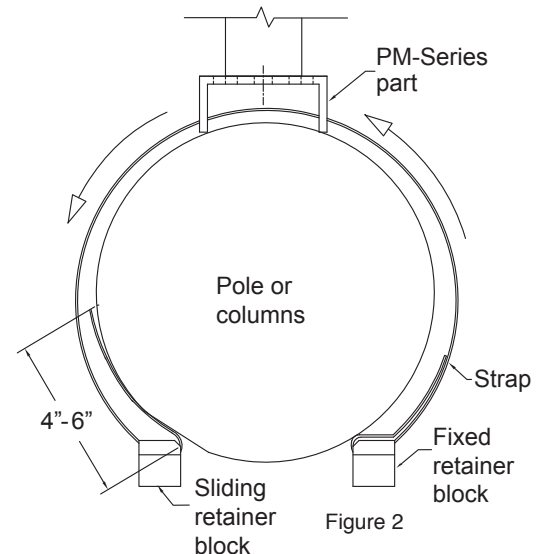

Figure 2
Insert the free end of the strap through the Pole Adapter's slots, then through the Sliding Retainer Block, non-beveled end first (Figure 2).
Holding the Fixed Block firmly against the pole, overlap the strap. Move the Sliding Block up against the Fixed block so that their two beveled edges meet each other (Figure 2).
Step 6: Place the strap assembly around the pole, at the final mounting height and secure the Retaining Blocks with the Carriage Bolt, Flange Nut and Flat Washer. Be sure that the Pole Adapter is oriented into the right direction and with the bolt assembly on the opposite side of the Pole Adapters (Figure 2 and 4).